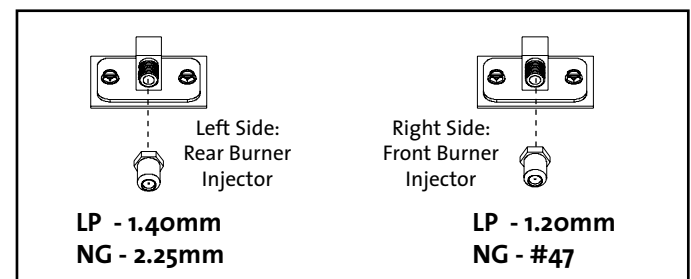
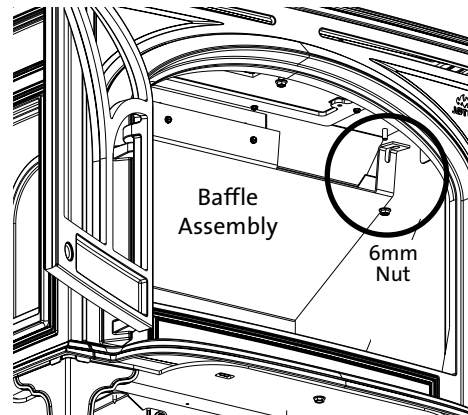

Figure 6.6.
Figure 6.7. Baffle Assembly location. Remove two 6 mm nuts to detach it from the firebox.
6.6. Change the Burner Injectors. See fig. 6.6. Using a 1/2" open end wrench or deep-well socket remove both burner injectors from the brass elbow housings and replace with the appropriate injectors supplied in the kit. **Injectors are labelled: "L" = Left / "R" = Right.****6.7. Baffle Conversion - Propane only:** Remove two, 6 mm nuts to detach the baffle assembly from the firebox. See figs. 6.7 - 6.8.